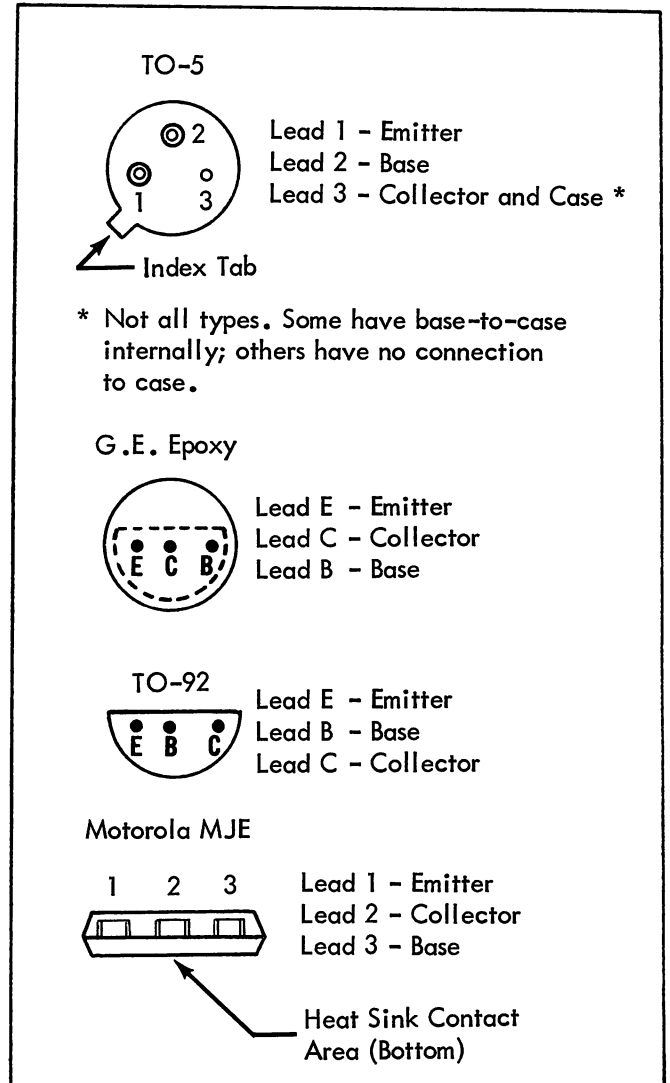

Figure 4. Typical Solid-State Component Configurations
2. If adjusting R12, set a dc VTVM to scale that will conveniently read 20 mV and connect its positive (+) lead to Q1 emitter and its negative (-) lead to Q2 collector (see Figure 4, Motorola MJE).
3. If adjusting R13, set a dc VTVM to scale that will conveniently read 20 mV and connect its positive (+) lead to Q3 emitter and its negative (-) lead to Q4 collector (see Figure 4, Motorola MJE).
Solid-state components are packaged in various case sizes and types with various lead orientations (see Figure 4). Before removing a solid-state component from tie points or from a PCB, sketch the lead orientation with respect to the tie points or PCB.